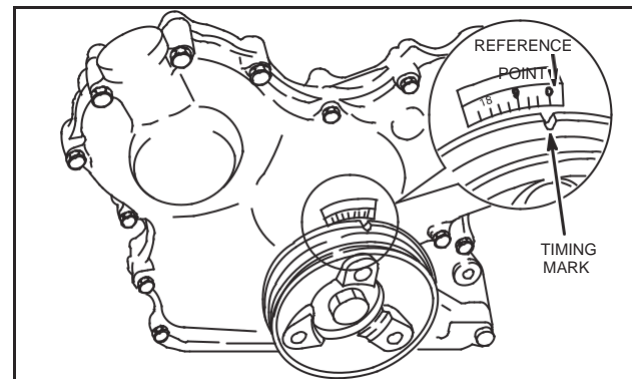

Fig. 8 – Align Timing Marks
2. Slowly rotate crankshaft clockwise until timing mark on pulley aligns with reference point on gear case cover (TDC), Fig. 8.